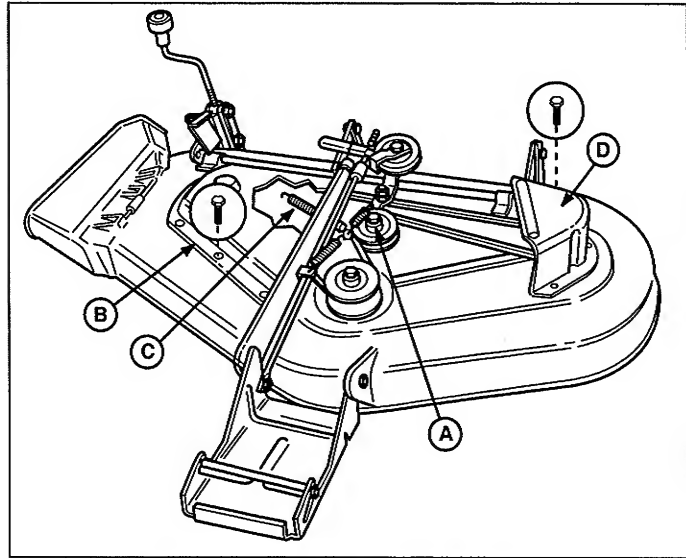

Figure 55. Mower Deck - 44" & 50" Mowers
4. See Figure 55. Remove three capscrews securing left-hand arbor cover (D).
7. See Figure 55. Reinstall the left-hand arbor cover (D). Reinstall the mower deck if removed.
5. Loosen capscrew (A, Figure 55) securing the idler pulley to the bracket. The belt can now be slipped between the pulley and idler bracket hub.
7. Tighten the capscrew (A, Figure 55).